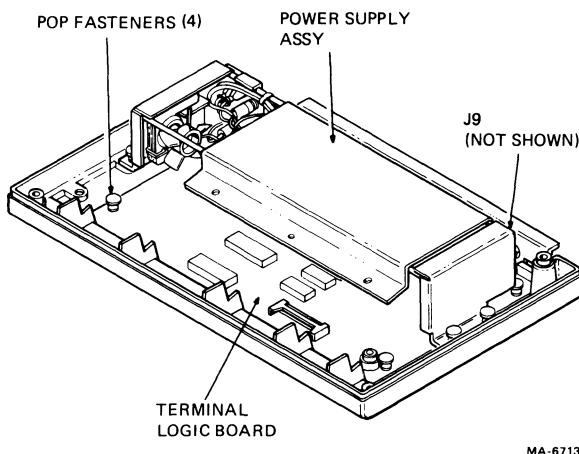

Figure 6-6 Power Supply Assembly Removal
4. Release the four (4) pop fasteners securing the power supply assembly to the terminal (Figure 6-6). To release the pop fasteners pull up on the plungers.